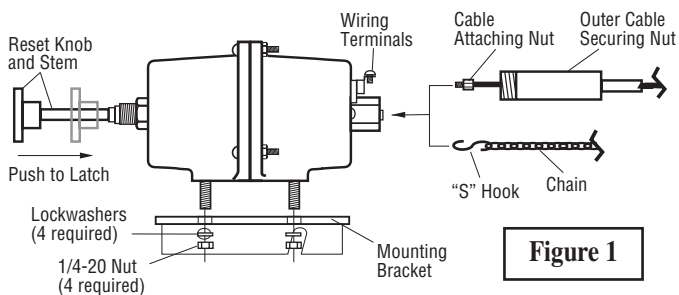

Figure 1
1. Mount the RP75 using a mounting bracket as illustrated in **Figure 1** (see page 1 of this bulletin for mounting hole dimensions.). If installing the RP75 to an engine compartment firewall, go to Step 2.
- 1.** To install the control linkage (cable or chain), apply voltage to the RP75. Push in the reset knob. If installing the cable, insert the *cable attaching nut* into the RP75 and tighten snugly (see **Figure 1**). **DO NOT OVERTIGHTEN** or threads may strip. Attach and tighten outer cable securing nut. If installing the chain, attach the "S" hook to the RP75 (see **Figure 1**).